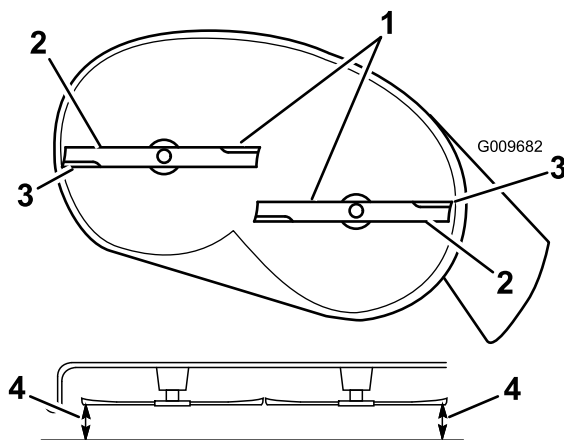

Figure 54
4. Carefully rotate the blades so that they are all side to side (Figure 54).
5. Measure between the outside cutting edges and the flat surface (Figure 54). If both measurements are not within 3/16 inch (5 mm), an adjustment is required; continue with this procedure.